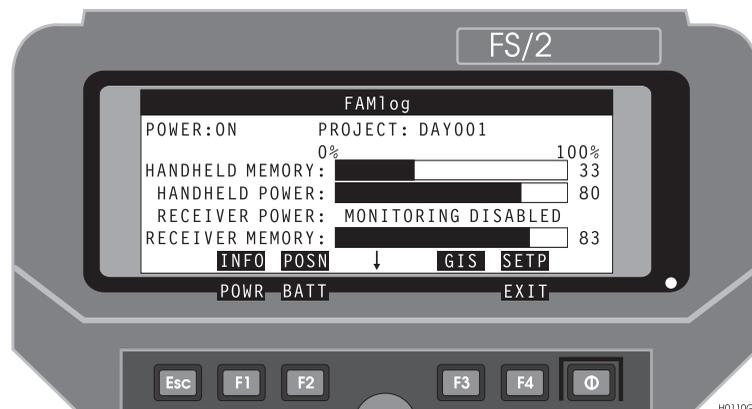

Figure 3.2: FAMlog Screen
4. The FAMlog screen appears, as shown in Figure 3.2.